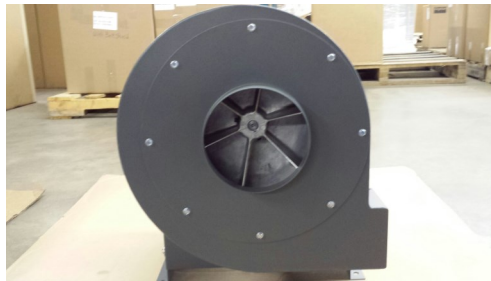

Figure 6
7. Install outer cover with 6" flange facing out. (see figure 6)